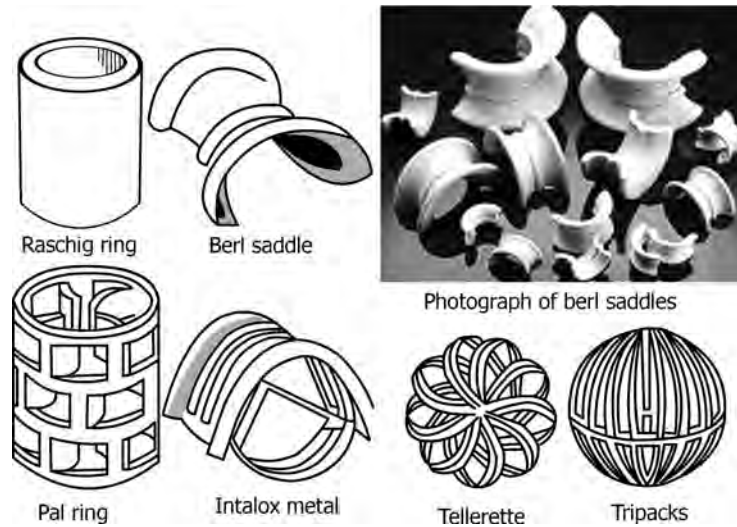

FIGURE 16.17 Some common types of random packings. (Courtesy: Koch Knight LLC for permission to use FLEXISADDLE™.)
- Figure 16.17 illustrates some common packings.